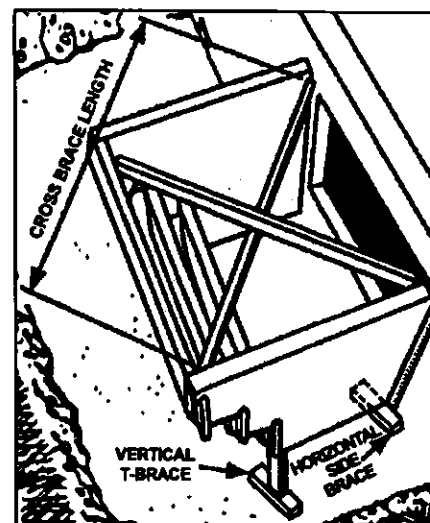

Figure 5
Embedment into the wall surface must be adequate to fully secure the fastener, but shall not be less than 1.5" penetration. Individual fasteners should have an ultimate load tensile capacity (pullout) of at least 1,800 pounds, or a working load tensile capacity of 450 pounds. Ultimate load shear capacity (bending) should be at least 1,700 pounds, or a working load shear capacity of 425 pounds (based on 3000 psi wall material). Wall materials less than 3000 psi may require deeper embedment to achieve required pullout and bending values. Seal/waterproof holes with an exterior grade structural adhesive when anchoring into hollow core masonry units. Attach a 12" horizontal brace under each side panel (see Figure 5). (Note: Brace not supplied with window well, use 2x4 or 2x6 lumber.)
In addition to the horizontal side bracing mentioned in STEP 3, vertical bracing must be provided to prevent the well from pulling away from the foundation during backfilling. Use (2) wood T-braces measured to fit vertically from firm soil at the bottom of the excavated opening to where the bottom step attaches to the side panels (see figure 5).
In order for the optional cover to fit, the ScapeWEL window well must be installed within a one inch (1") overall tolerance. Proper cross bracing prior to backfilling will ensure that the well will be square. Using a 2 x 4 as a guide, add both diagonal measurements and divide by two to obtain the desired diagonal brace length. After cutting the first diagonal brace and placing it above the second step, recheck the second diagonal for length before cutting. The two 2 x 4 cross braces must be the same length. Place the second diagonal brace on top of the first (see Figure 5). (NOTE: Braces not supplied with window well, use 2 x 4 or 2 x 6 lumber.)